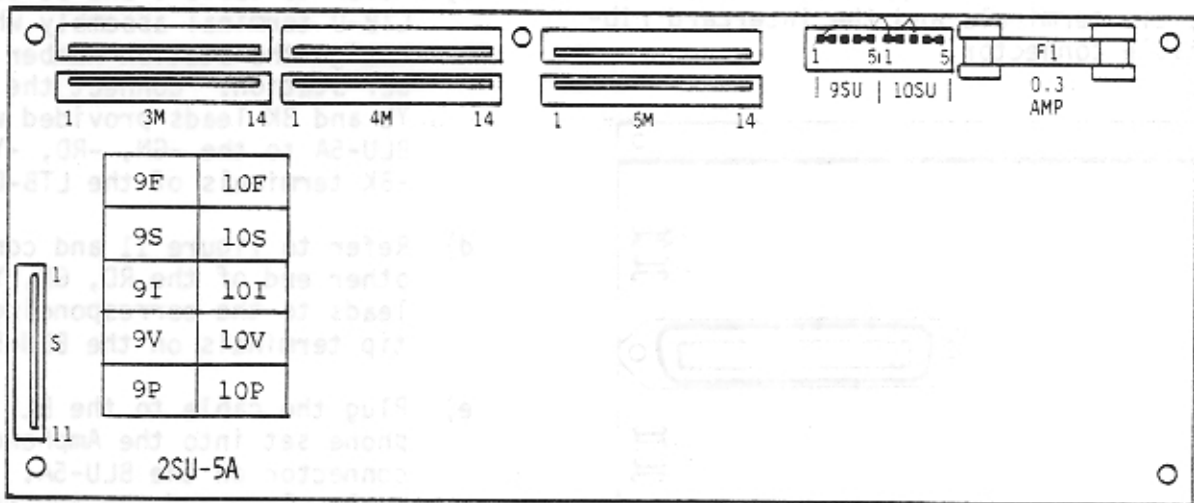

Figure 10 - 2SU-5A Abbreviated Card Layout
6.70 Figure 3 shows the locations of the 2SU-5A cards in the KSU. Figure 10 shows the layout of the card, fuse location, option connector arrangement, and intercard ribbon cable connectors.
- d) Using table 4, move the option connector pins to the positions which will provide the desired options for the telephones served by the 2SU card. Figure 10 shows the option connector locations.